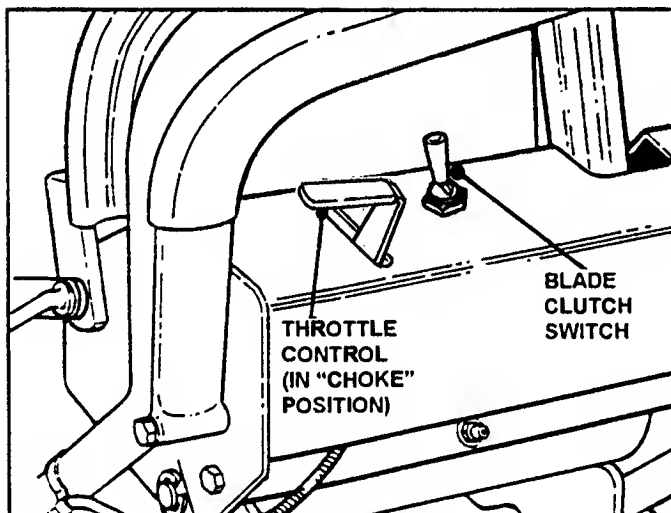

FIGURE 9
5. Move Throttle Control Lever to **CHOKE** position. See Figure 9. **NOTE:** Briggs engines have a remote choke located on the left side of tank bracket. Choke is not part of Throttle Control Lever.